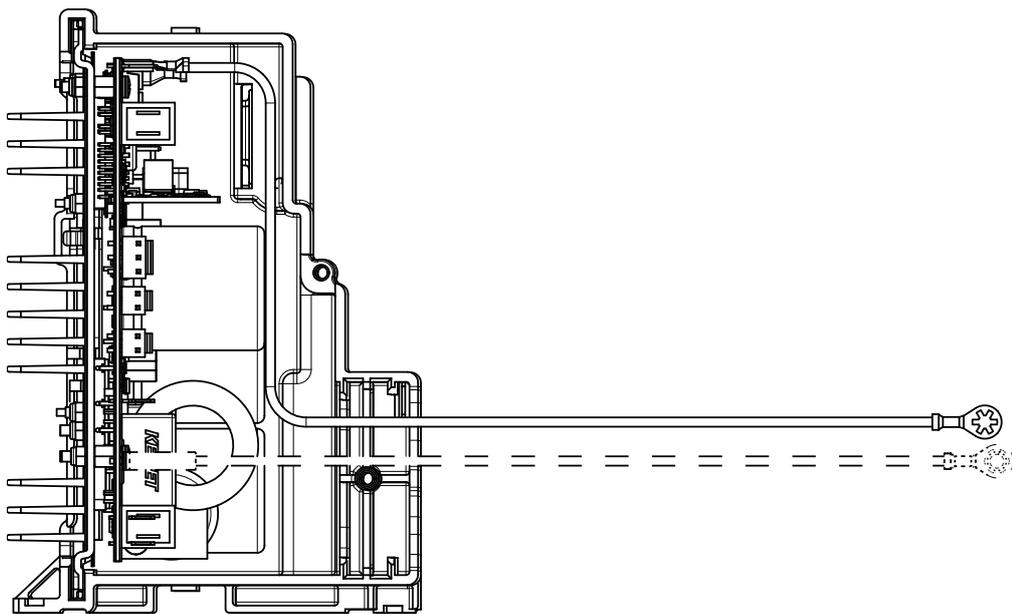

Figure 3.10: Cables arrangement
2. Take care to positioning the EMI earth (when applied) and Safety earth cables with the protecting tape beneath the cord relief as shown in Figure 3.10.